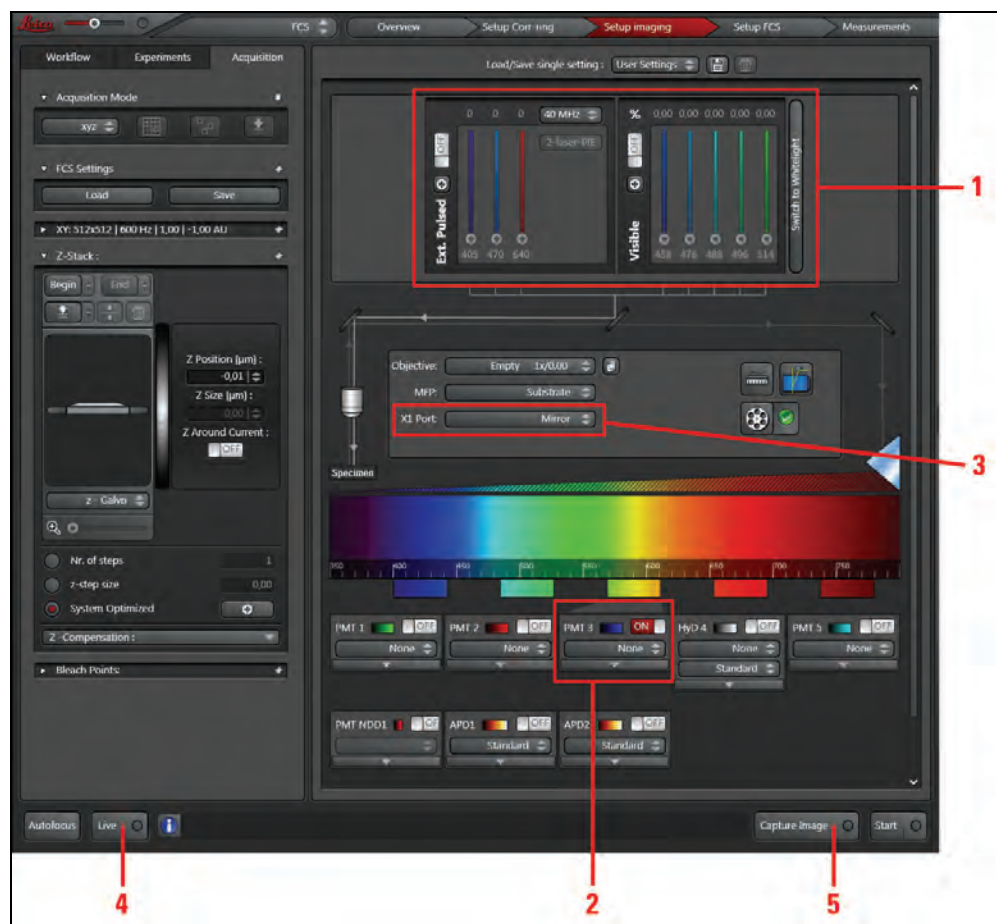

Figure 166: Settings for acquiring a reference image using photomultipliers
3. You can create an image or stack in the **Setup Imaging** step of the FCS Wizard (**Figure 166**). Select suitable photomultipliers (**Figure 166, item 2**) and the laser (**Figure 166, item 1**). You can also use an xyz or xzy stack.
5. Check that the external port X1 is switched to the **Mirror** position (**Figure 166, item 3**).
6. Start a continuous scan by clicking the **Live** image acquisition button (**Figure 166, item 4**) and start an image acquisition by clicking the **Capture Image** image acquisition button (**Figure 166, item 5**).
1. Check that the external port X1 is switched to the **Mirror** position (**Figure 166, item 3**).